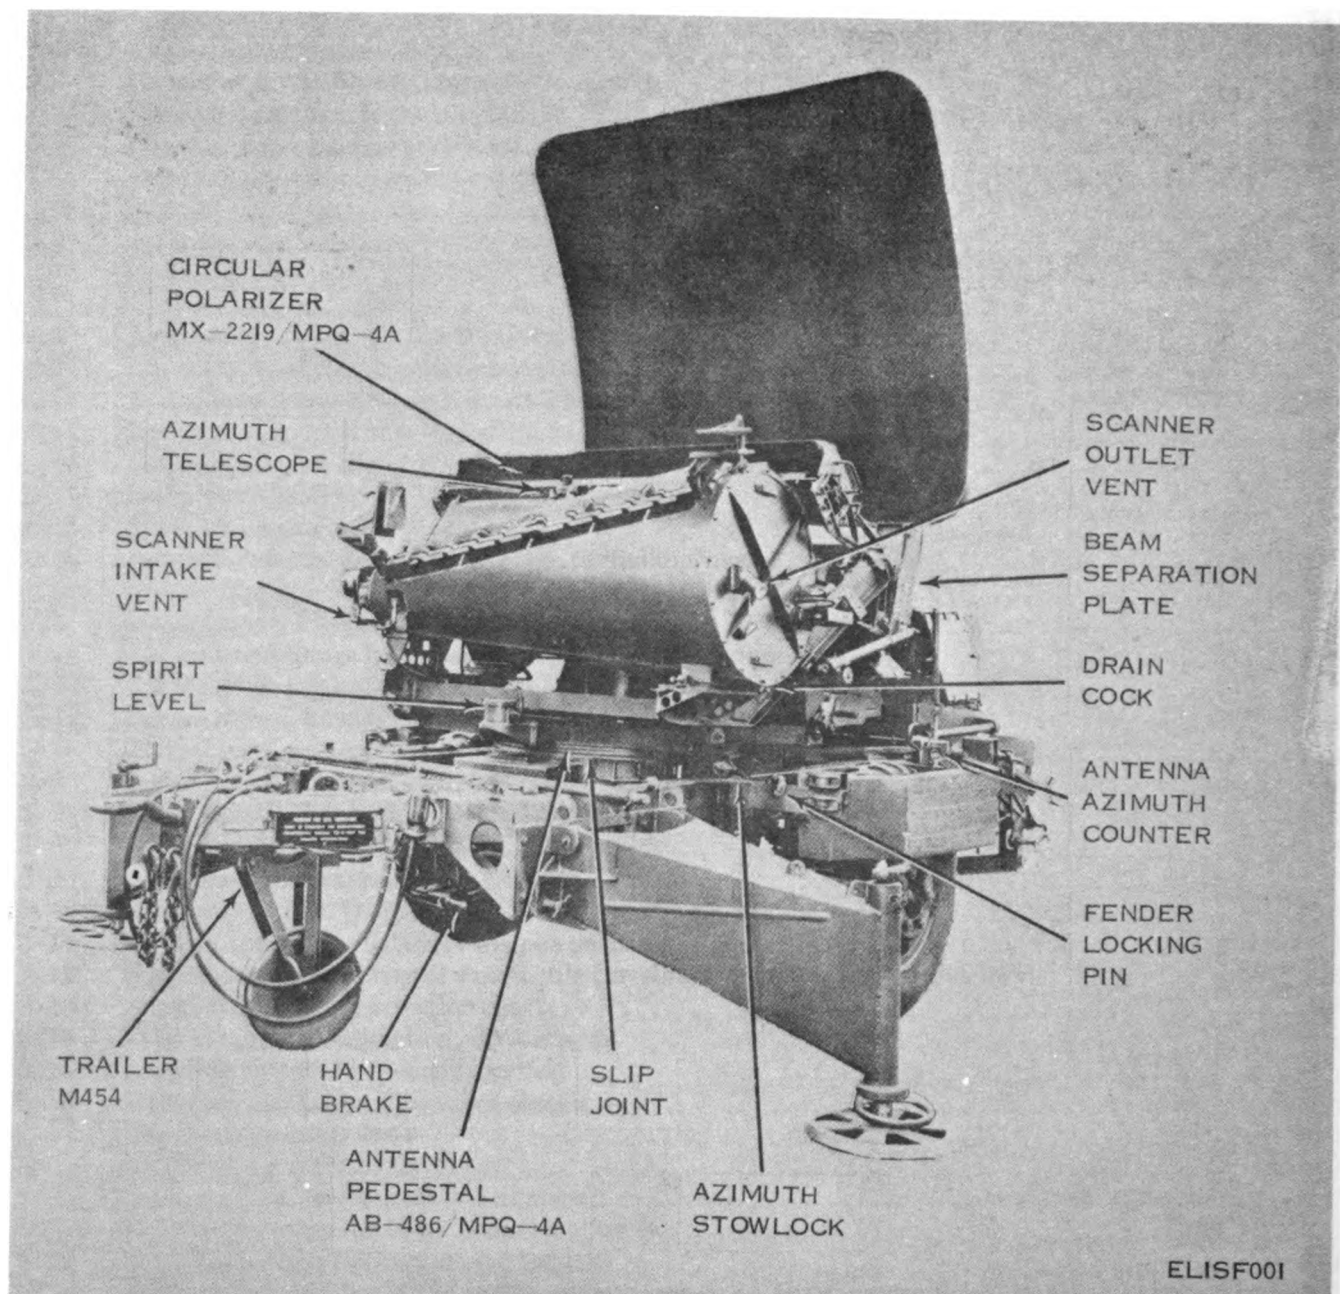

Figure 1-1. Radar Set AN/MPQ-4A, front view.
a. This manual describes Radar Set AN/MPQ-4A (fig. 1-1); and contains instructions for the installation, operation to detect and locate weapons and impact areas, and operator's maintenance of the AN/MPQ-4A. Detailed tactical employment and position requirements, and procedures used during conduct of radar gunnery missions, are covered in FM 6-161, Radar Set AN/MPQ-4A.